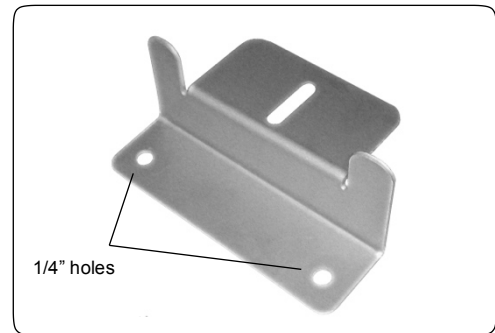
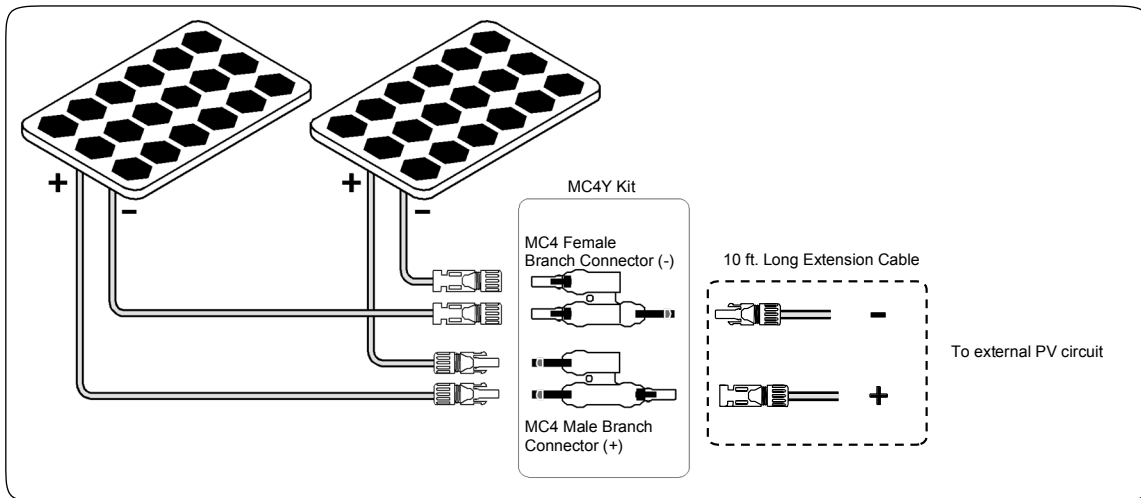

Fig. 7.2. Mounting bracket (Z Bracket).
Fig. 8.1. Connecting solar modules in parallel.
2. Fix the mounting brackets (Fig. 7.2) to the frame of the previously positioned solar panel using the slotted opening and the 1/4”-20 x 3/4” Flange Bolt, Nylon Locknut and flat washer (Fig. 8.1)
5. The end holes on the mounting brackets (Fig.7.2) are sized to accept the 1/4” hardware supplied with the unit.
2. Connect the Positive leads (marked as '+') from the two solar panels to the suitable mating branch connector (as in Fig 8.1).
3. Connect the Negative leads (marked as '-') from the two solar panels to the suitable mating branch connector (as in Fig 8.1).